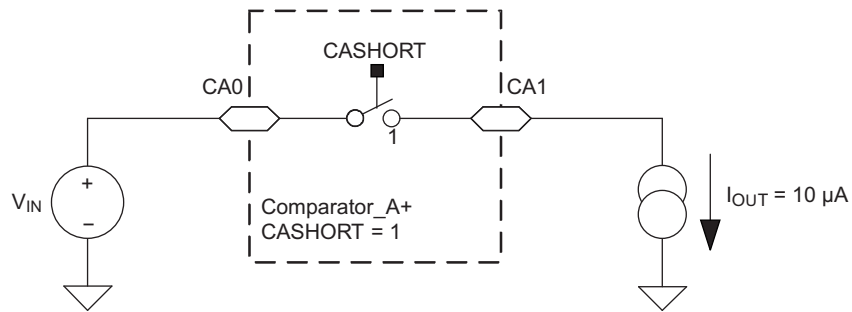
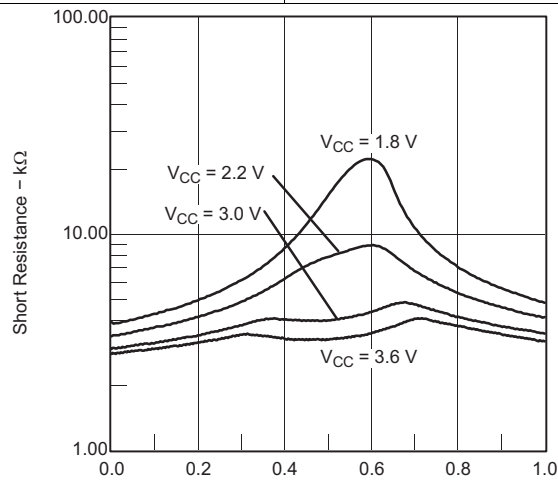

Figure 5-34. Comparator_A+ Short Resistance Test Condition
Figure 5-37. Short Resistance vs V_{IN}/V_{CC}
- (1) The leakage current for the Comparator_A+ terminals is identical to I_{lkg(Px.y)} specification.
- (2) Also see Figure 5-34 and Figure 5-37.
- (3) The input offset voltage can be cancelled by using the CAEX bit to invert the Comparator_A+ inputs on successive measurements. The two successive measurements are then summed together.
- (4) The response time is measured at P2.2/CAOUT/TA0/CA4 with an input voltage step and with Comparator_A+ already enabled (CAON = 1). If CAON is set at the same time, a settling time of up to 300 ns is added to the response time.